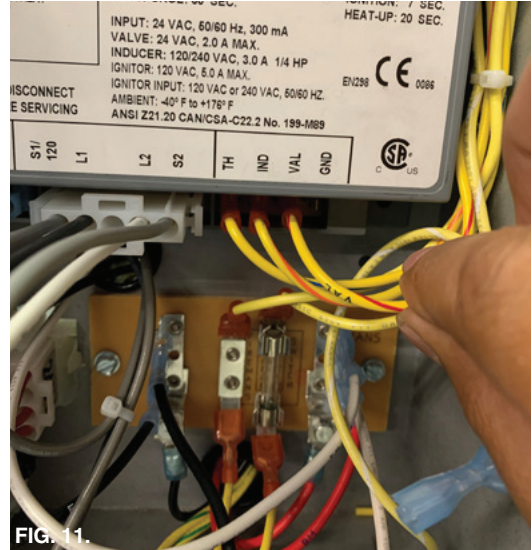

FIG. 11.
10. Connect the Red/yellow wire to VAL ¼" tab at the ICM, as shown in Fig. 11.